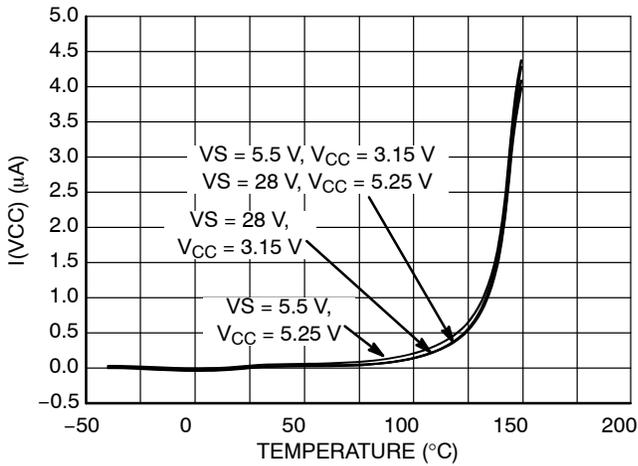

Figure 16. I(VCC) vs. Temperature
7. Refer to Figure 16 for the  $V_{CC}$  standby current behavior.